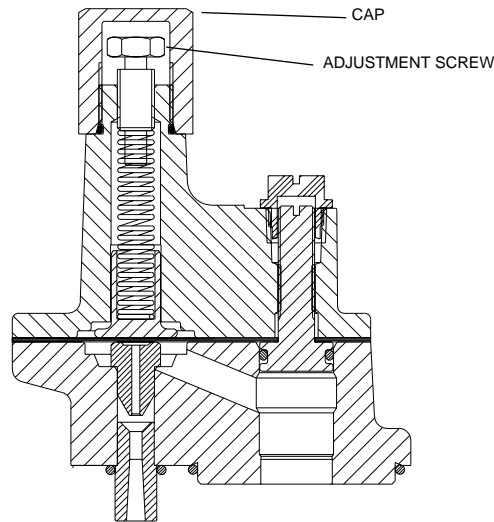

Figure 2.14 Functional Element cap and adjustment screw
- 1: Remove the cap (Fig. 2.14).
- 2: Turn down the adjustment screw (Fig. 2.14). Tightening the screw clockwise will increase the pressure. When the adjusting screw is fully down, the relief pressure is approximately 30 psi (207 kPa). Positions between fully up and fully down will result in relief pressures between approximately 3 psi (21 kPa) and 30 psi (207 kPa).